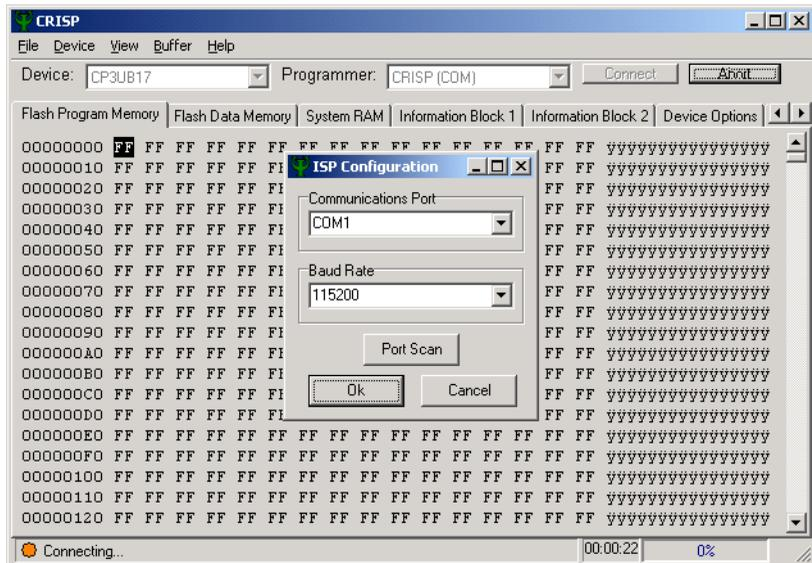

Figure 5-1. Screen after Clicking Connect Button
1. **Select Port and Baud Rate.** Click the Connect button once. The screen should then look like the screen shot in Figure 5-1.